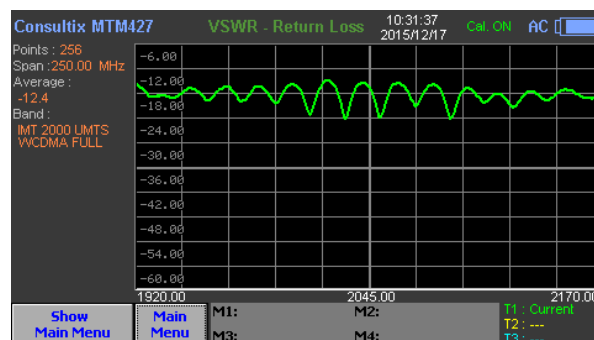

Figure 38: SiteWizard VSWR Curve
3. **VSWR** curve appears on the display screen as shown in **figure 38**